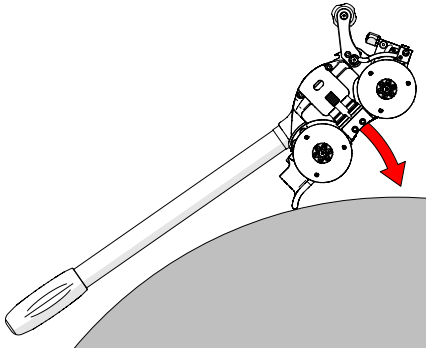

Fig. 182 - Pivot on pry point towards scan surface
7. With a firm grip on the manipulation handle, slowly lower the wheels of the crawler (*Fig. 182*) towards the inspection surface until all four wheels contact the surface.